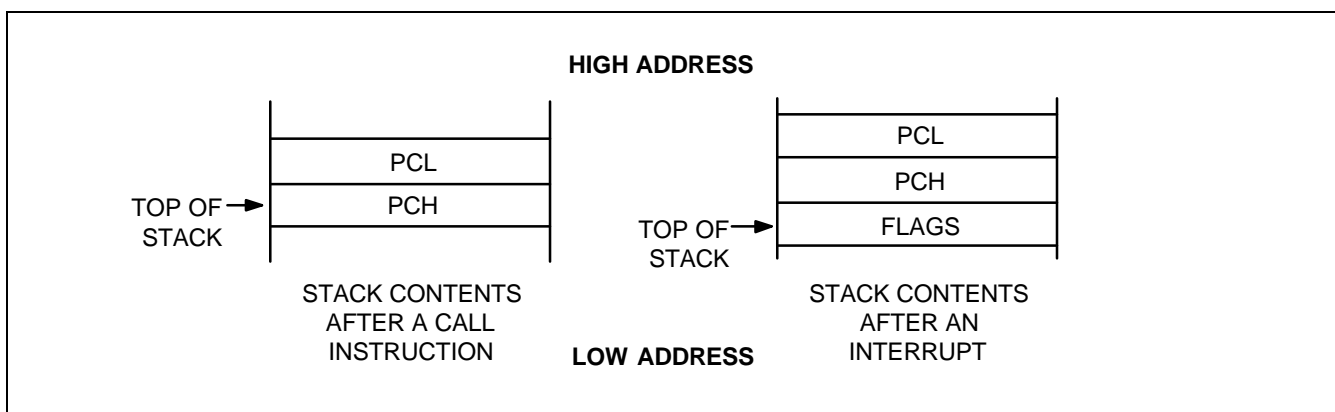

Figure 2-16. Stack Operations
Return addresses for procedure calls and interrupts and data are stored on the stack. The contents of the PC are saved to stack by a CALL instruction and restored by an RET instruction. When an interrupt occurs, the contents of the PC and the FLAGS register are pushed to the stack. The IRET instruction then pops these values back to their original locations. The stack address is always decremented *before* a push operation and incremented *after* a pop operation. The stack pointer (SP) always points to the stack frame stored on the top of the stack, as shown in Figure 2-16.